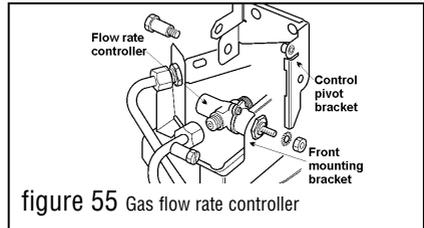

figure 55 Gas flow rate controller
15.11 TO REMOVE THE GAS FLOW RATE CONTROLLER (See figure 55)